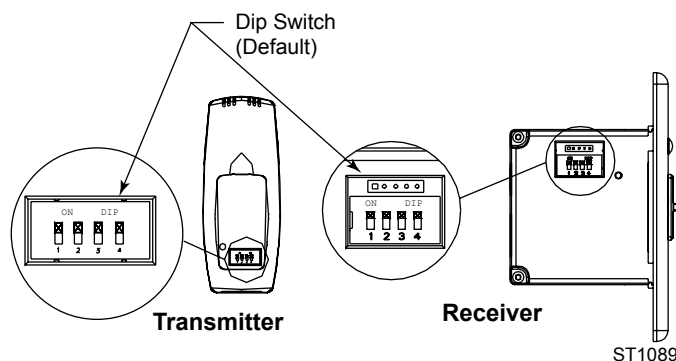

Figure 59 The switches on the transmitter and receiver must match.
1. Slide the code switches on the transmitter and receiver to choice of ON or OFF position. Switches #1, #2, #3 and #4 are preset to "ON" for both the transmitter and receiver. (Figure 59)